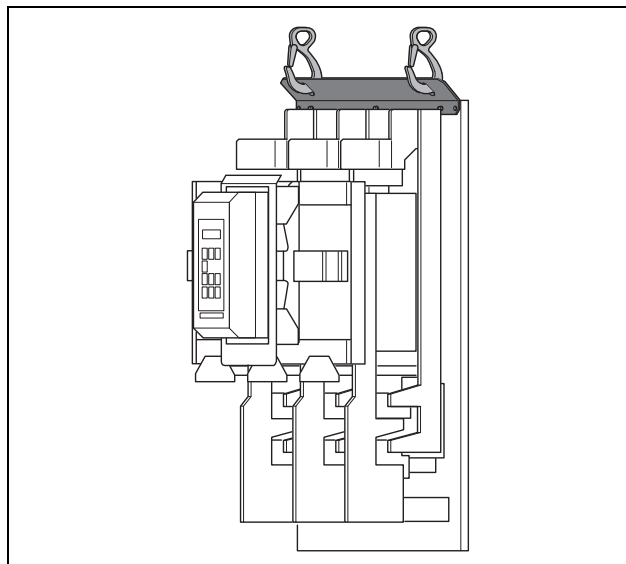

Fig. 22 Vertical lifting of TSA unit.
2. Mount the lifting bracket on the top of the TSA unit. Use the three M5 nuts from the removed cable entry plate, see Fig. 22